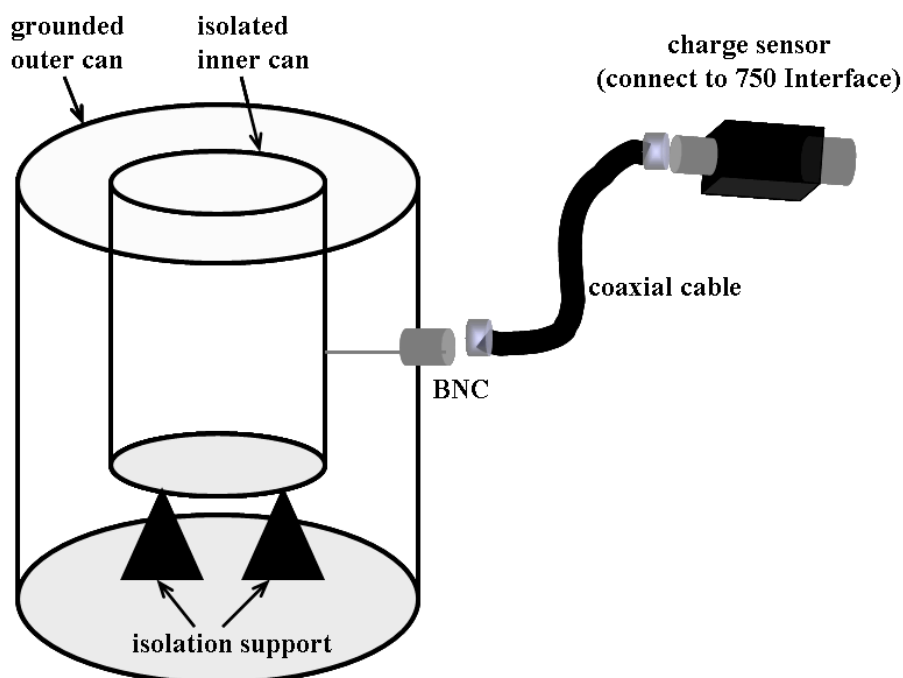

Figure 1. The setup to measure electrical charge.
As mentioned earlier, electrical charge can be produced by rubbing two objects (of different materials) against each other, such as glass with silk, amber with wool, etc. During rubbing, some charges (usually as electrons, the outmost constituent in atoms/molecules) are stripped away from one object by motion and are transferred to the other object because of the close contact between the two objects. Therefore, after rubbing two objects acquire net charges of the opposite signs. In this lab, charge is measured using the setup as shown in Figure 1. A charge sensor is connected to a pair of two metal cans (forming two concentric conducting cylinders) by a coaxial cable. Through the BNC connector on the surface of the big can, the inner connection of the coaxial cable is connected to the surface of the small can and the outer connection (the ground) is connected to the big can.
2. Set up the charge meter as shown Figure 1. The charge sensor is connected directly to one of the analog inputs on **750 interface**, for instance, input Channel A. Use the “GAIN” switch on the charge sensor to set the gain to 1X, 5X, or 20X. This Gain is real. Thus, the measured charge value must be divided by the corresponding gain. When “ZERO” button on the charge sensor is pressed, the input capacitor of the charge sensor is discharged and the reading of charge sensor becomes zero. Therefore, to make correct measurement “ZERO” button should be pressed only when the charge is zero on the connected object. This procedure should be repeatedly used in this lab. Note: charge is measured in μC . To convert the unit of charge to coulomb, multiply by 10^{-6} .